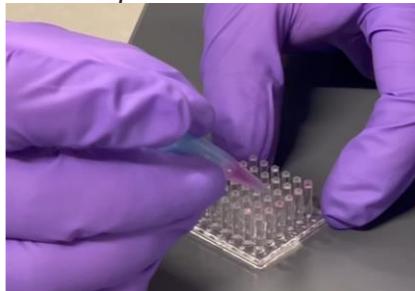

Figure 2. Loading the cell-Matrigel mixture on the pillar plate using a 1 mL pipette tip.
10. Gently tap the 1 mL pipette tip with the cell-Matrigel mixture in the center of the pillar to load the cell-Matrigel mixture while blocking the large open area of the tip using the index finger (**Fig. 2**).